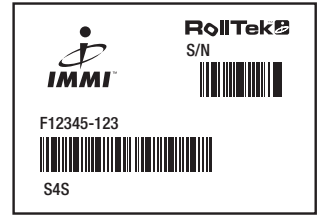

Figure 2
1. Locate product identification label. This is located on the front mounting bracket of the unit. See FIGURE 2